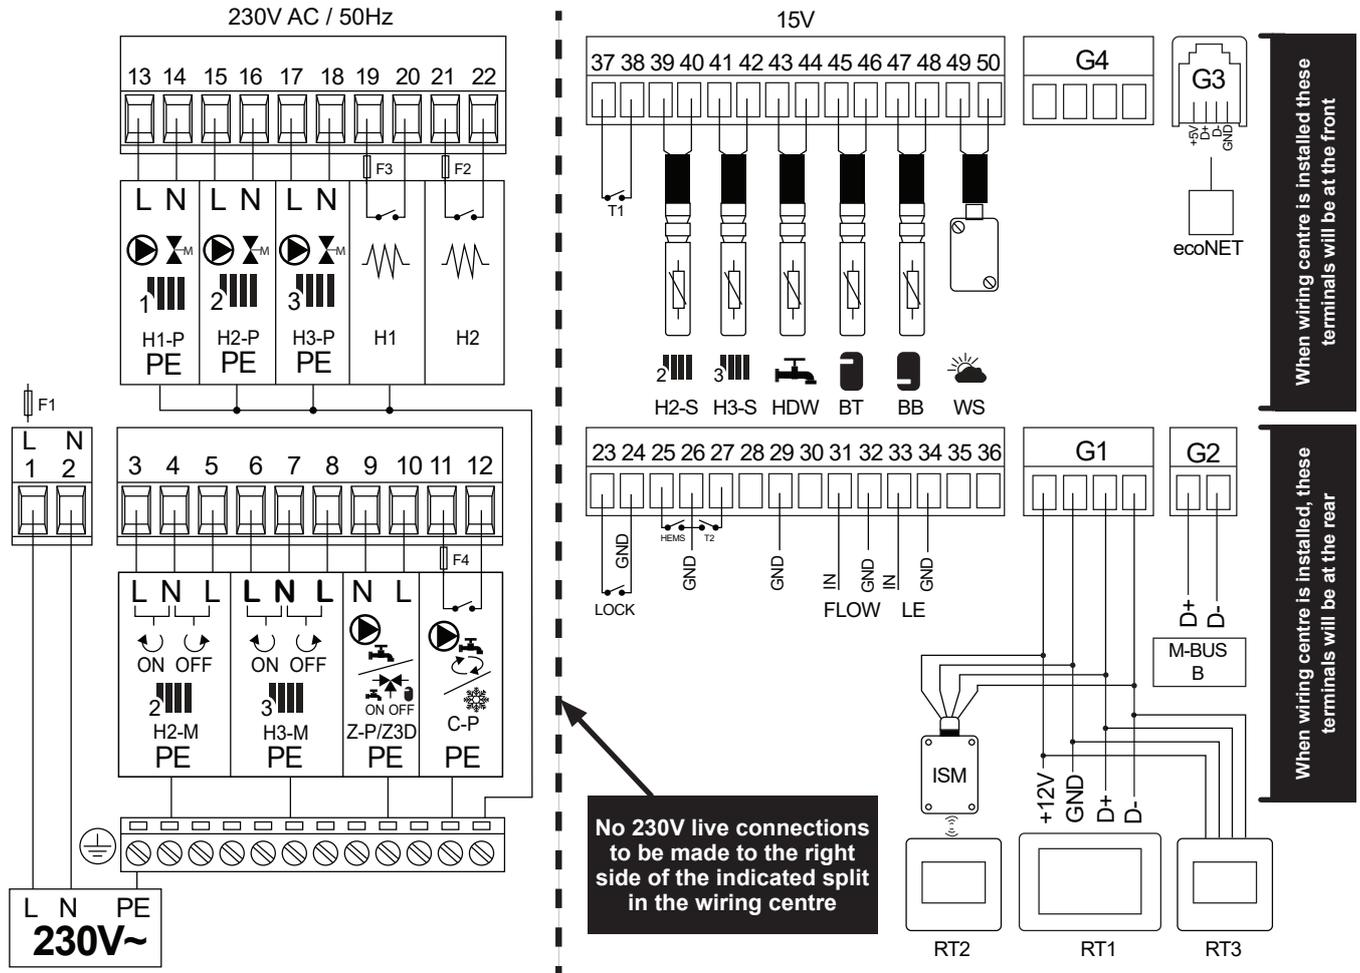

Figure 5-3: Wiring centre - Terminals
2. Connect L & N wires of the supply to Terminals 1 & 2. Refer to Figure 5-3 for wiring centre terminal diagram.
You must only configure components you have connected (Refer to Section 5.4 Figure 5-3 for wiring centre layout).